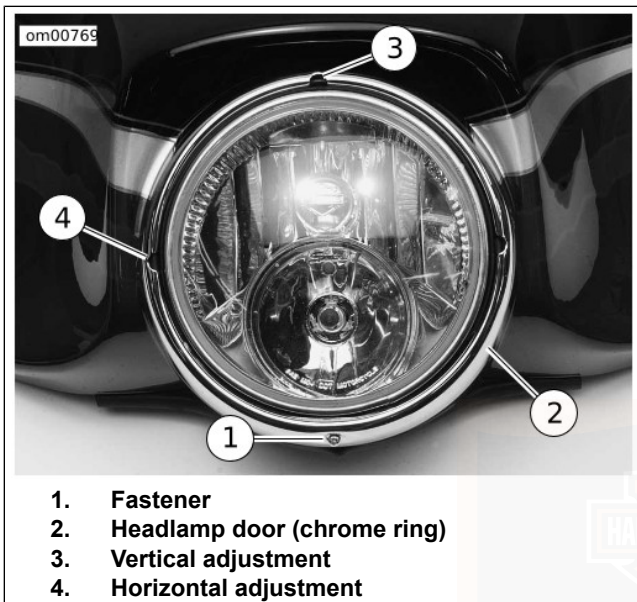

Figure 55. Headlamp Door: FLHTCUSE
1. See Figure 55. Remove the small fastener and the headlamp door.
2. See Figure 55. Adjust beam.
- a. Turn the vertical adjusting screw (3) to adjust headlamp vertically.
- b. Turn the horizontal adjusting screw (4) to adjust headlamp horizontally.